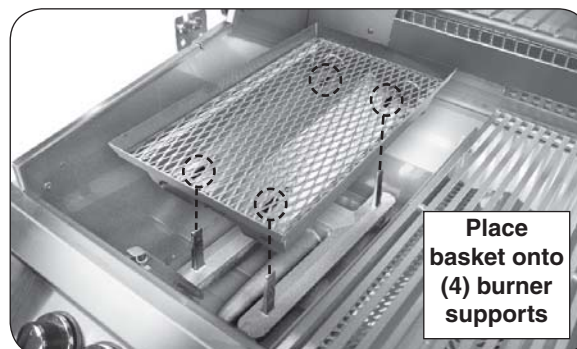
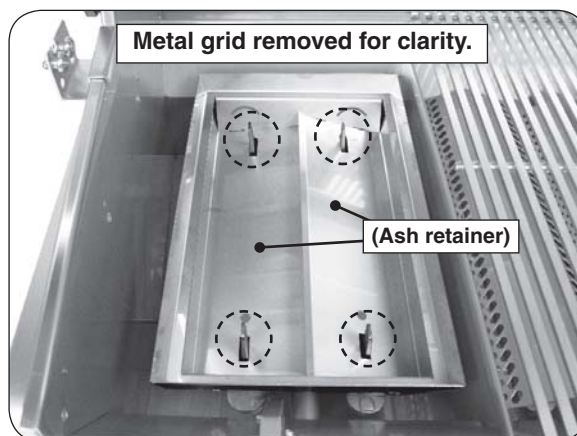

Fig. 30-3 Place basket onto burner
Fig. 30-4 Basket placement detail
3. Place the basket onto the burner in place of the flavor grid. Align the basket cutouts over the burner supports (see Fig. 30-3 and Fig. 30-4).